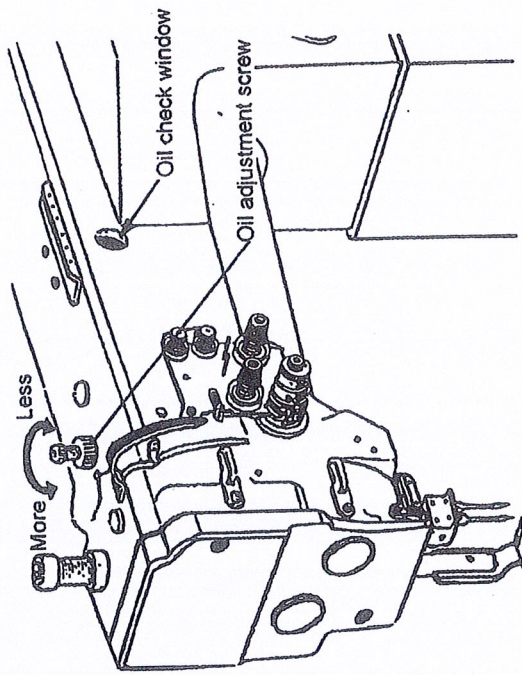
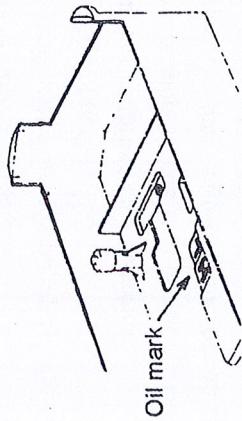
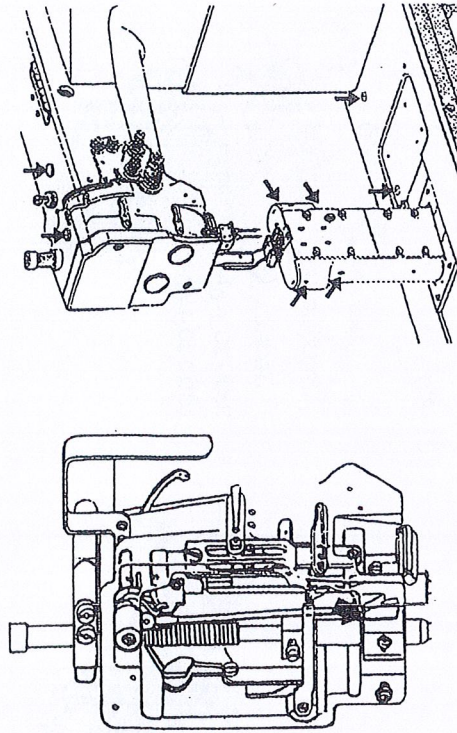

Fig.15
Fig.13
Fig. 14
3) While operating the machine, check the condition of oil lubrication through the oil check window. The oil amount can be adjusted by oil adjustment screw. (Fig.15)
17. Lubrication (Fig.13, Fig.14, Fig.15):
- 1) Before starting operation, be sure to pour oil up to the position H of oil tank. If the oil below position L, replenish the oil supply up to position H. (Fig.13)
- 2) When a new sewing machine is first operated, or when a sewing machine which left out of use for a long period of time is operated, it will be necessary to oil through the oil holes after removing the rubber plugs shown below (the direction shown in arrows). (Fig. 14)